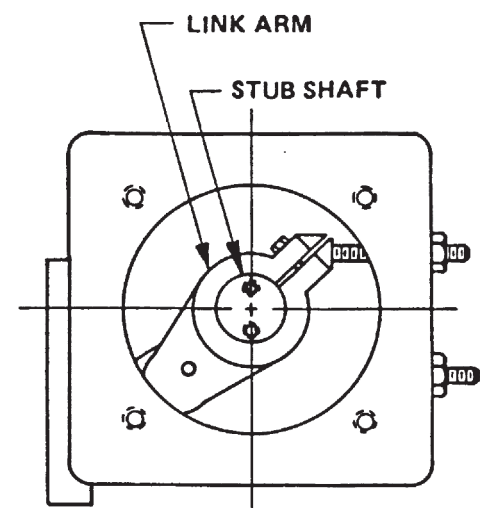

Figure 7: Stub Shaft Position
12. 55 and 85 actuators: Position the stub shaft as shown in Figure 7, below. Turn only the stub shaft, not the link arm.